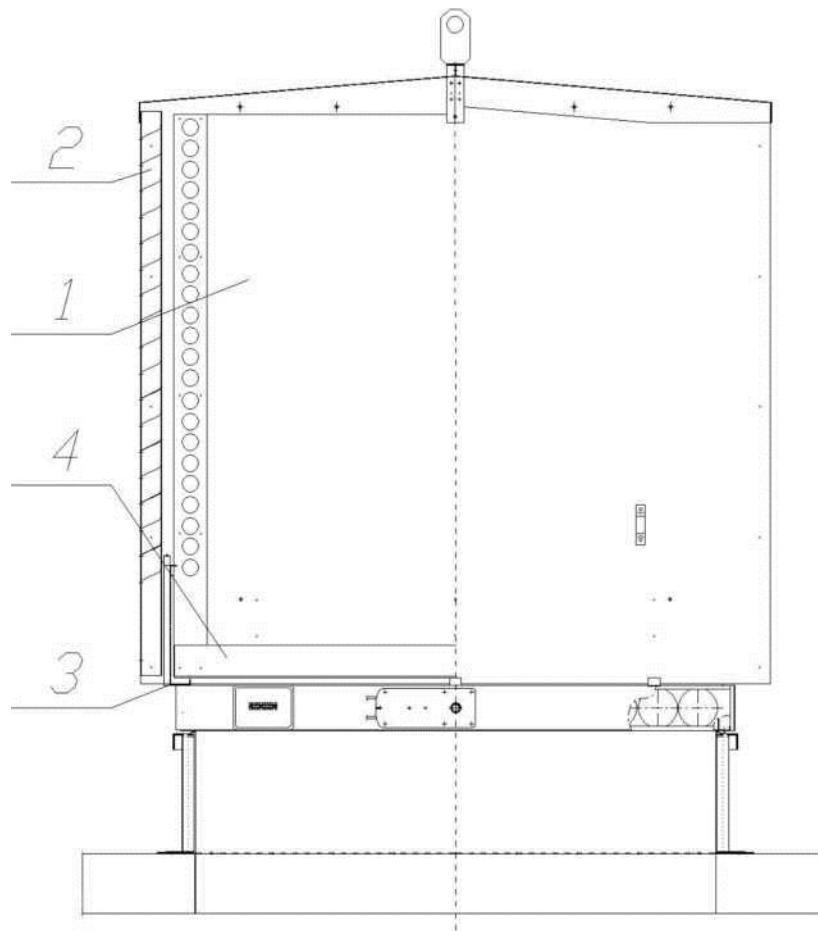

Figure 1. Design of type mcr PL1/D roof set of overpressure and bleed dampers.
The structural design of mcr PLD roof set is shown in Fig. 1. The main components of the damper are: cut off barrier (Fig. 1, item 1), exhausts (Fig. 1, item 2), housing (Fig. 1, item 3), damper weights (Fig. 1, item 4).